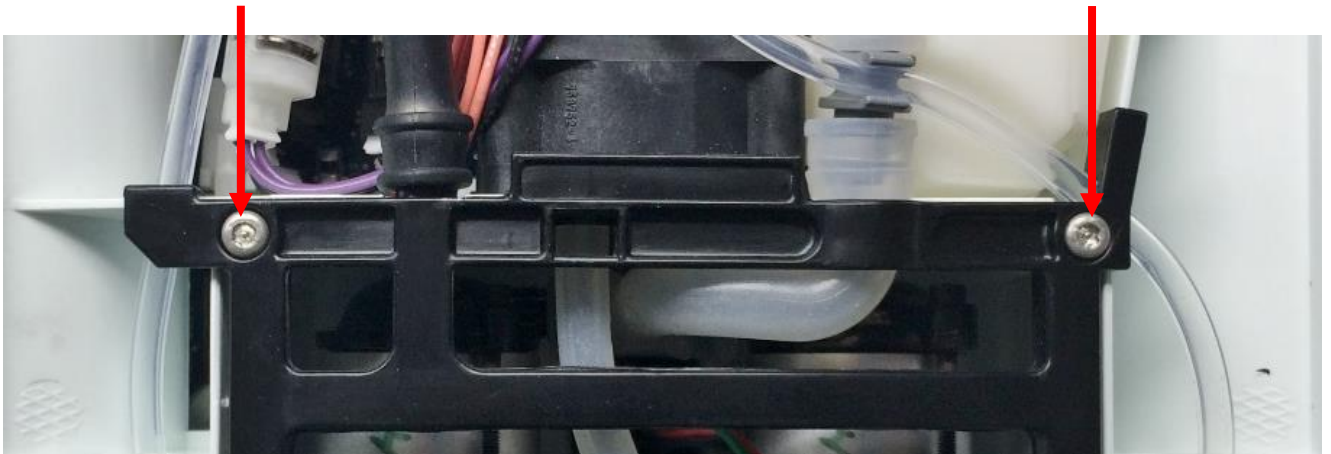

Figure 5: Tube bracket screws
1. Locate and remove the two screws that connect the tube bracket to the chassis (Figure 5). This frees the tubes surrounding the accumulator and makes more room for removal.